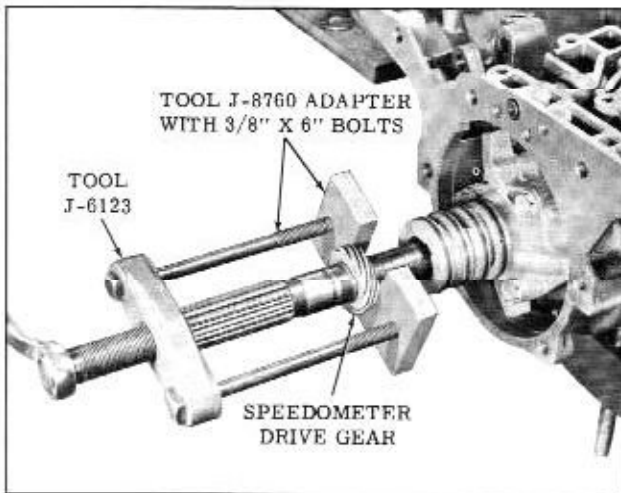

Fig. 3-36 Removing Speedometer Gear
25. With parking pawl engaged, remove the speedometer drive gear Tool J-8760 and J-6123. (Fig. 3-36)